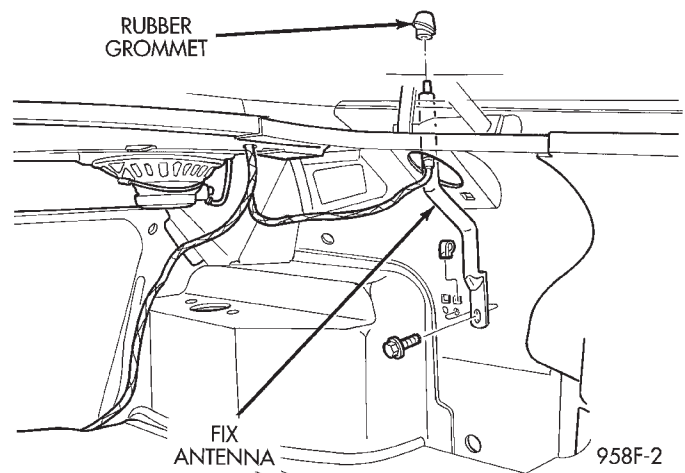

Fig. 6 Antenna Mounting Removal
- (3) Remove antenna mast by unscrewing mast from antenna body.
- (4) Remove screw from mounting bracket (Fig. 6).
- (5) Pull antenna body down through the rubber grommet.